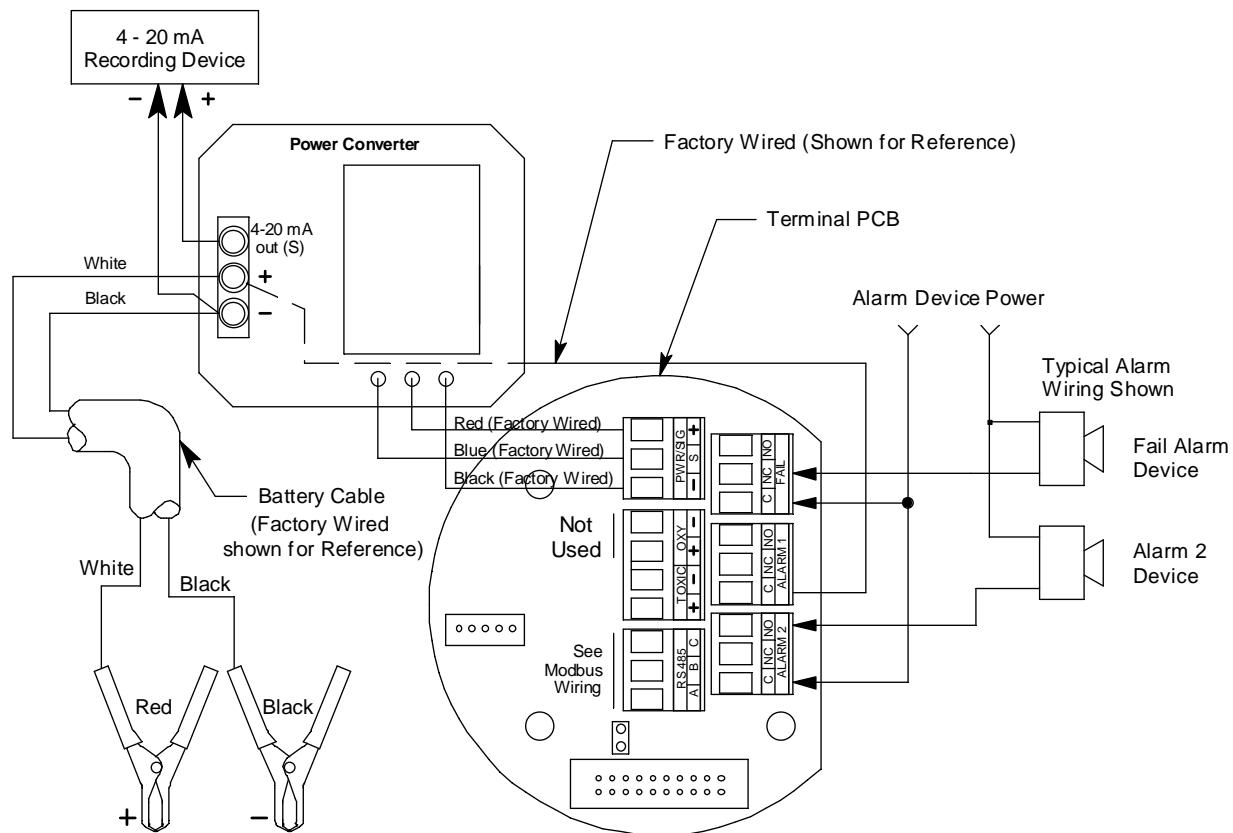

Figure 9: Rig Monitor Field Wiring
10. Connect the leads from the external alarm to the appropriate terminals on the appropriate relay terminal strip as shown in Figure 9 to obtain the desired operation.
6. Locate the 4-20 mA out terminals on the power converter below the control PCB. See Figure 9 to assist you in locating the recorder output terminals. They are labelled **4-20 mA out (S)** and **-**.
10. Connect the leads from the recording device to the 4-20 mA out terminal strip as shown in Figure 9. When connecting to the - terminal, take care to maintain the existing factory wiring to the - terminal.